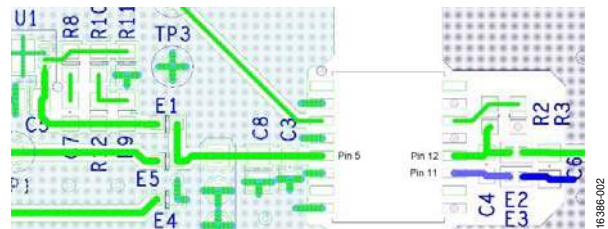
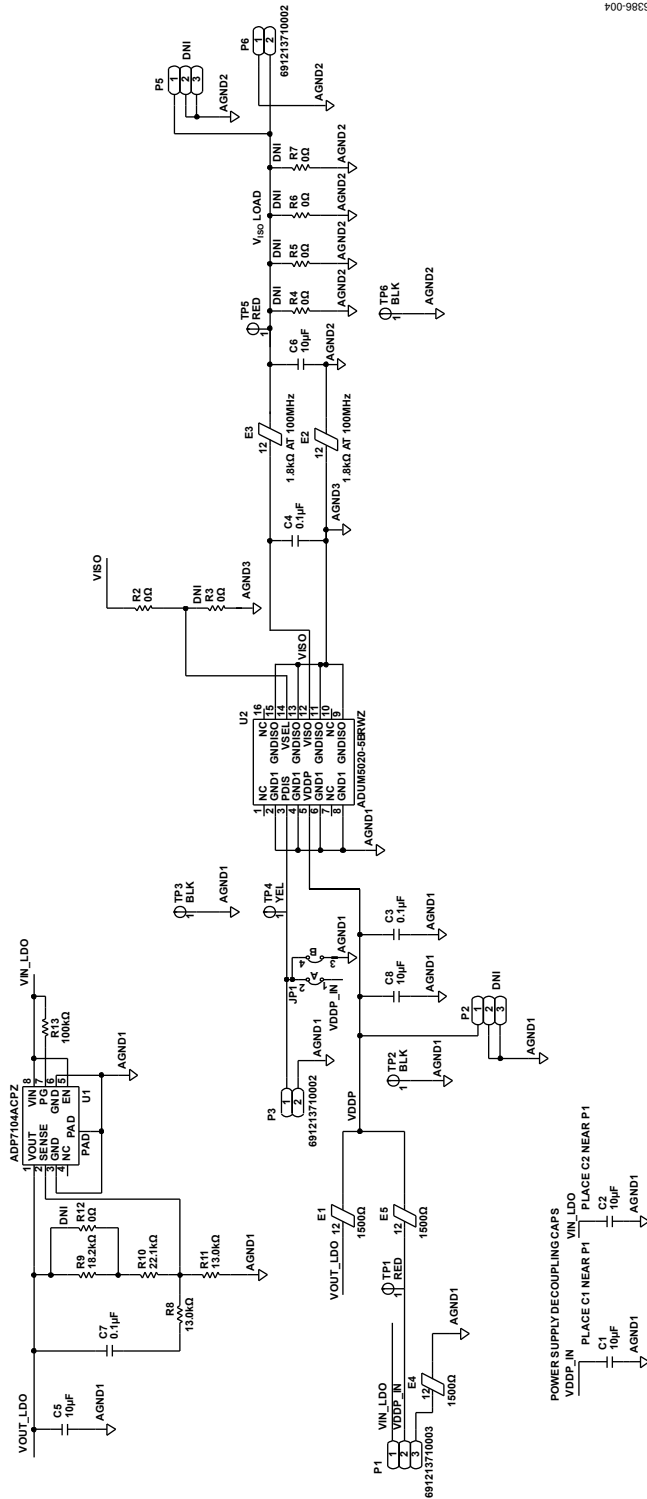
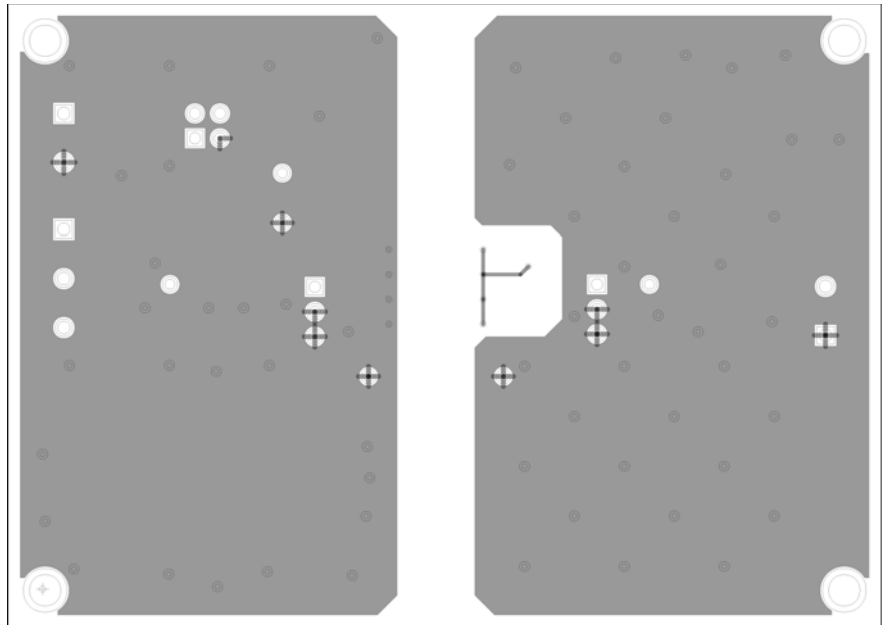

Figure 2. Layout Notes for EVAL-ADUM5020EBZ
Figure 5. EVAL-ADuM5020EBZ Evaluation Board Schematic
Figure 7. EVAL-ADUM5020EBZ Evaluation Board Bottom Layer and Silkscreen
To reduce the level of electromagnetic radiation, increase the impedance to high frequency currents between the  $V_{ISO}$  and the  $GND_{ISO}$  pins and the PCB trace connections. Using this method of emissions suppression controls the radiating signal at its source by placing surface-mount ferrite beads in series with the  $V_{ISO}$  and  $GND_{ISO}$  pins (see Figure 5). The impedance of the ferrite bead is approximately 1.8 k $\Omega$  between the 100 MHz and 1 GHz frequency range. This impedance value reduces the emissions at the 180 MHz primary switching frequency and the 360 MHz secondary side rectifying frequency and harmonics. See Table 2 for examples of appropriate surface-mount ferrite beads.
To pass CISPR22/EN55022 Class B on a 2-layer PCB, the following layout guidelines are recommended (refer to Figure 2 and the schematic in Figure 5):
- Do not connect the  $V_{ISO}$  load (shown in Figure 5) to a power plane; connect using a PCB trace.
- Ensure that  $V_{ISO}$  (Pin 12) is connected first through the E2 ferrite before connecting it to the  $V_{ISO}$  load, as shown in Figure 2.
- Ensure that there is a keep out area in the PCB layout around the E2 and E3 ferrites, as shown in Figure 2 (no PCB planes under or alongside E2 and E3).
The EVAL-ADUM5020EBZ evaluation board design has been tested to pass the CISPR22/EN55022 Class B standard. Table 3 provides a summary of the results. All CISPR22/EN55022 radiated emissions tests were performed with the PCB schematic and layout shown in Figure 5 to Figure 7.